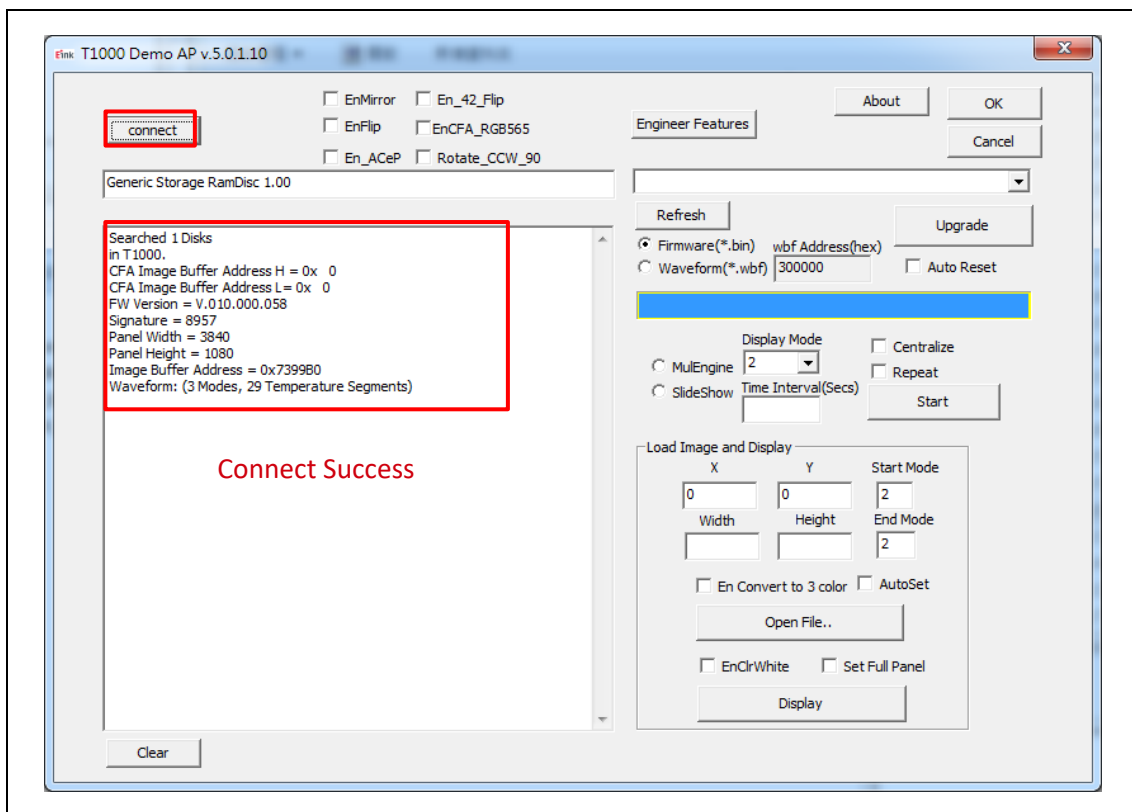

Figure 3.1
- C. Execute the "T1000\_Windows\_AP.exe" software and click the "Connect" button to ensure that the software is successfully connected to the physical drive. (refer to Figure 3.1)